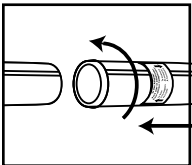

FIGURE 3
8. Insert adapter into hose end then attach wand or accessory to other end of adapter depending on your cleaning application. Twist slightly to tighten the connection. **FIGURE 3.**